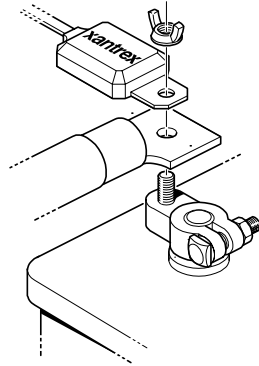

Figure 11 BTS Mounted on the Negative Battery Terminal
See Figure 11.
6. Mount the sensor directly on top of the ring terminal, as shown in Figure 11, and firmly tighten the terminal nut.